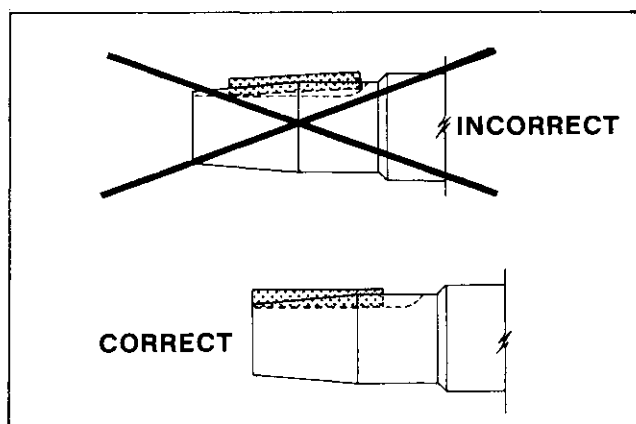

Figure 8-31. Correct And Incorect Way To Install Flywheel Key
DO NOT allow the key to be pushed inward on the keyway while installing the flywheel. If the key rides up on the rounded surface at the end of the keyway as shown in Figure 8-31, it will act as a wedge and crack the flywheel hub.
2. Position key properly in keyway as shown in Figure 8-31 and carefully guide key slot in flywheel hub over the key, to avoid pushing the key inward.